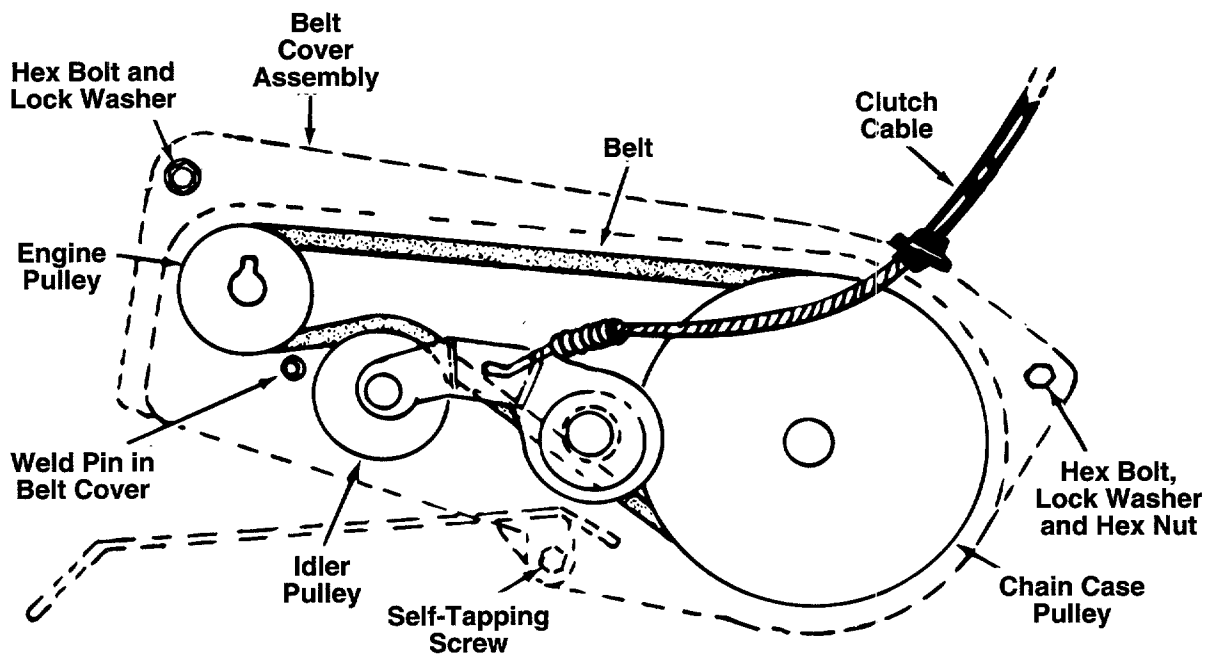

FIGURE 12.
1. Remove the belt cover assembly by removing one hex bolt and lock washer, one self-tapping screw and one hex bolt, lock washer and hex nut. See figure 12.
NOTE: Upon reassembly of belt cover, place the belt over top of the idler pulley and between engine pulley and weld pin on belt cover assembly. See figure 12.